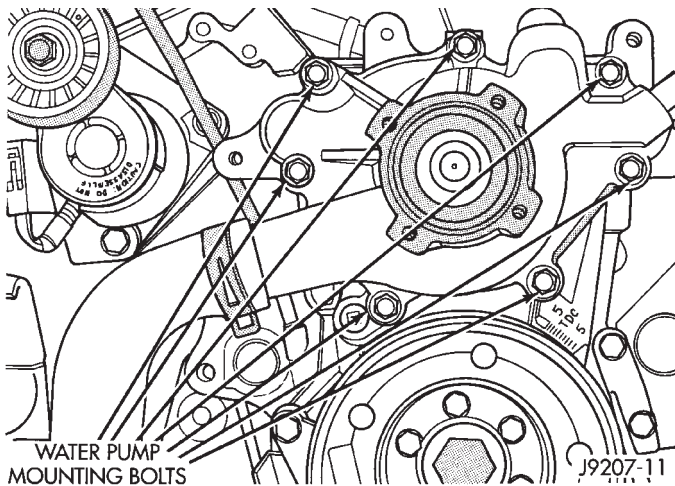

Fig. 44 Water Pump Bolts—3.9L V-6 or 5.2/5.9L V-8 Gas Engines—Typical
(18) Remove the seven water pump mounting bolts (Fig. 44).
bypass hose as pump is being installed. Install water pump bolts (Fig. 44). Tighten water pump mounting bolts to 40 N·m (30 ft. lbs.) torque.